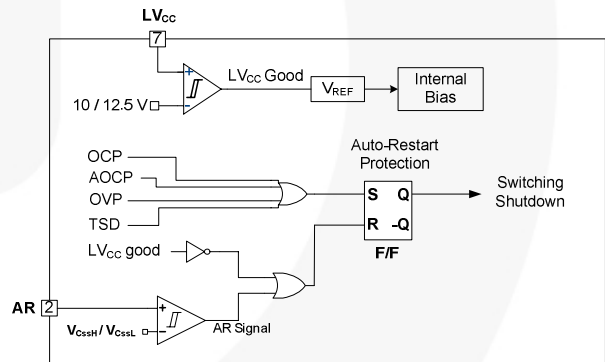

Figure 22. Protection Blocks
5. Protection Circuits: The FLS-XS series has several self-protective functions, such as Over-Current Protection (OCP), Abnormal Over-Current Protection (AOC), Over-Voltage Protection (OVP), and Thermal Shutdown (TSD). These protections are auto-restart-mode protections, as shown in Figure 22.